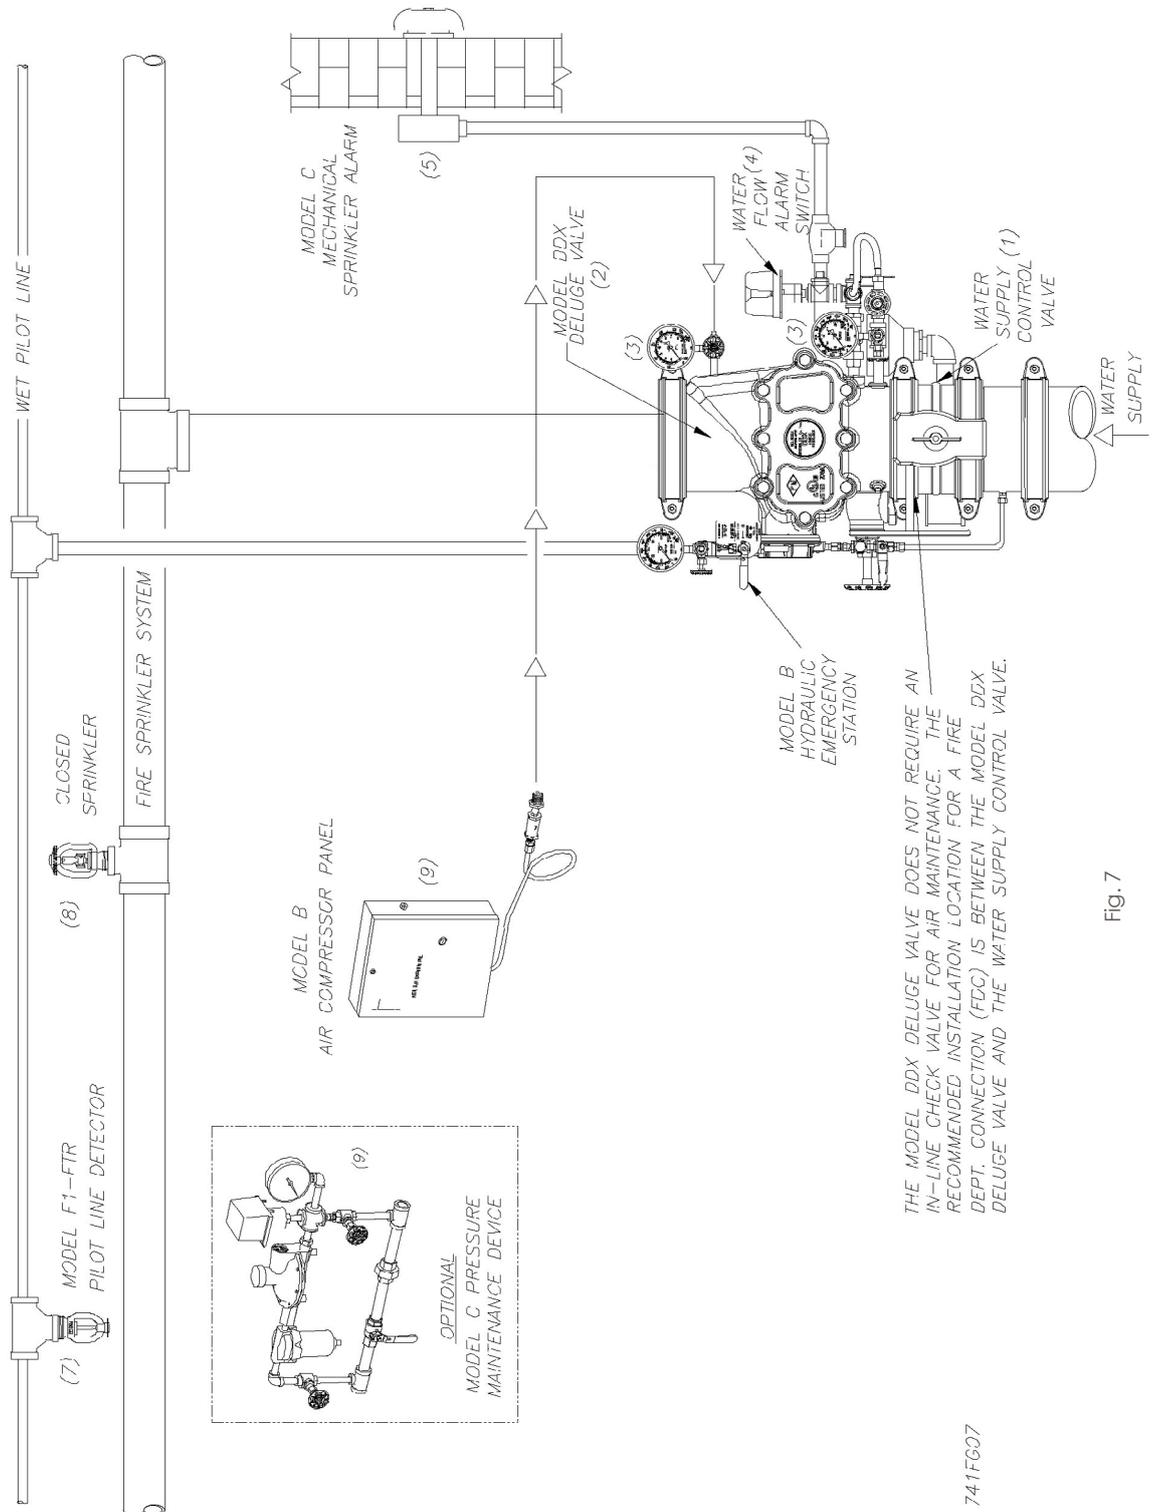

Fig. 7
- Additional equipment (Refer to Fig. 7)